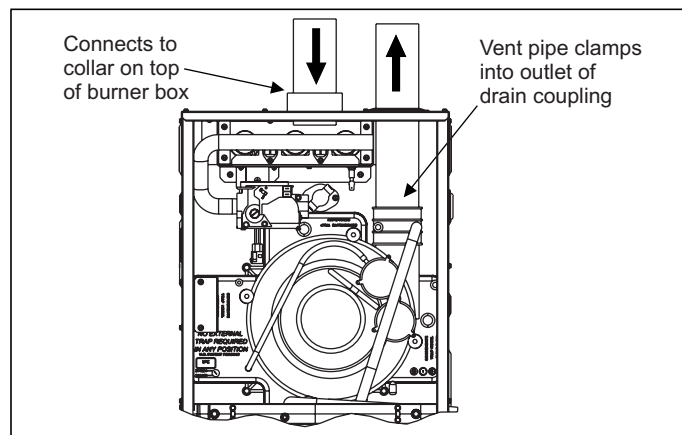
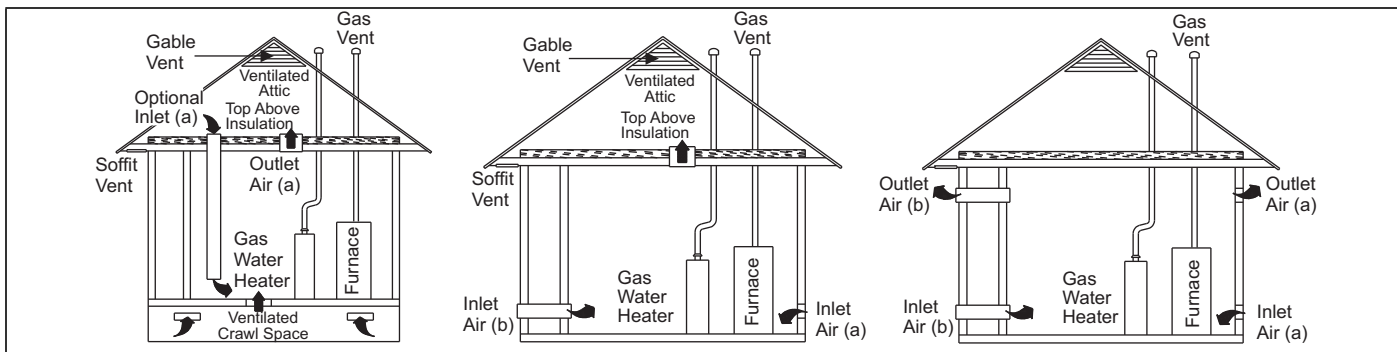

FIGURE 28: Direct Vent Air Intake Connection and Vent Connection
FIGURE 30: Ambient Combustion Air
7. Direct vent systems must be installed so the vent and the combustion air pipes terminate in the same atmospheric zone. Refer to Figures 28 or 29.
The combustion air side of the two-pipe configuration shown in Figures 28 and 29 can be installed so the combustion air pipe terminates as described in outdoor combustion air or ventilated combustion air sections in these instructions. Follow the instructions for outdoor combustion air or ventilated combustion air and the instructions for installing the vent system with the vent terminating as shown in Figure 30 or 31. The two-pipe system must have a separate combustion air pipe and a separate vent pipe for each furnace. Under NO circumstances can the two combustion air or vent pipes be tied together. The combustion air and vent pipes must terminate in the same atmospheric zone.